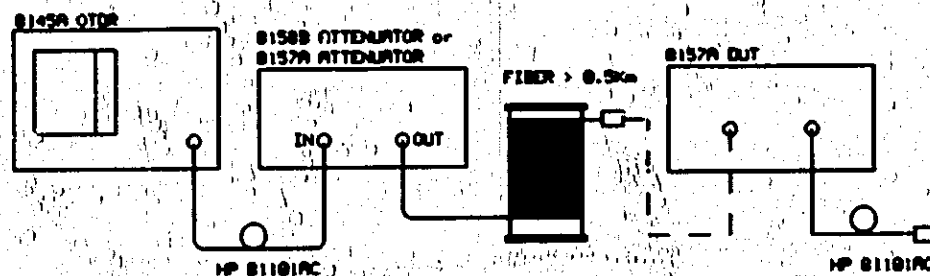

Figure 4-4. Return Loss Set-up
2. Connect equipment as shown in Figure 4-4